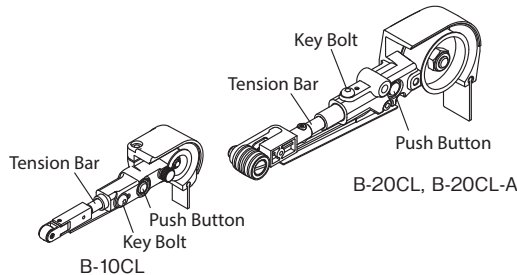

Fig.14
- a) B-10CL, B-20CL, B-20CL-A (Fig.14)